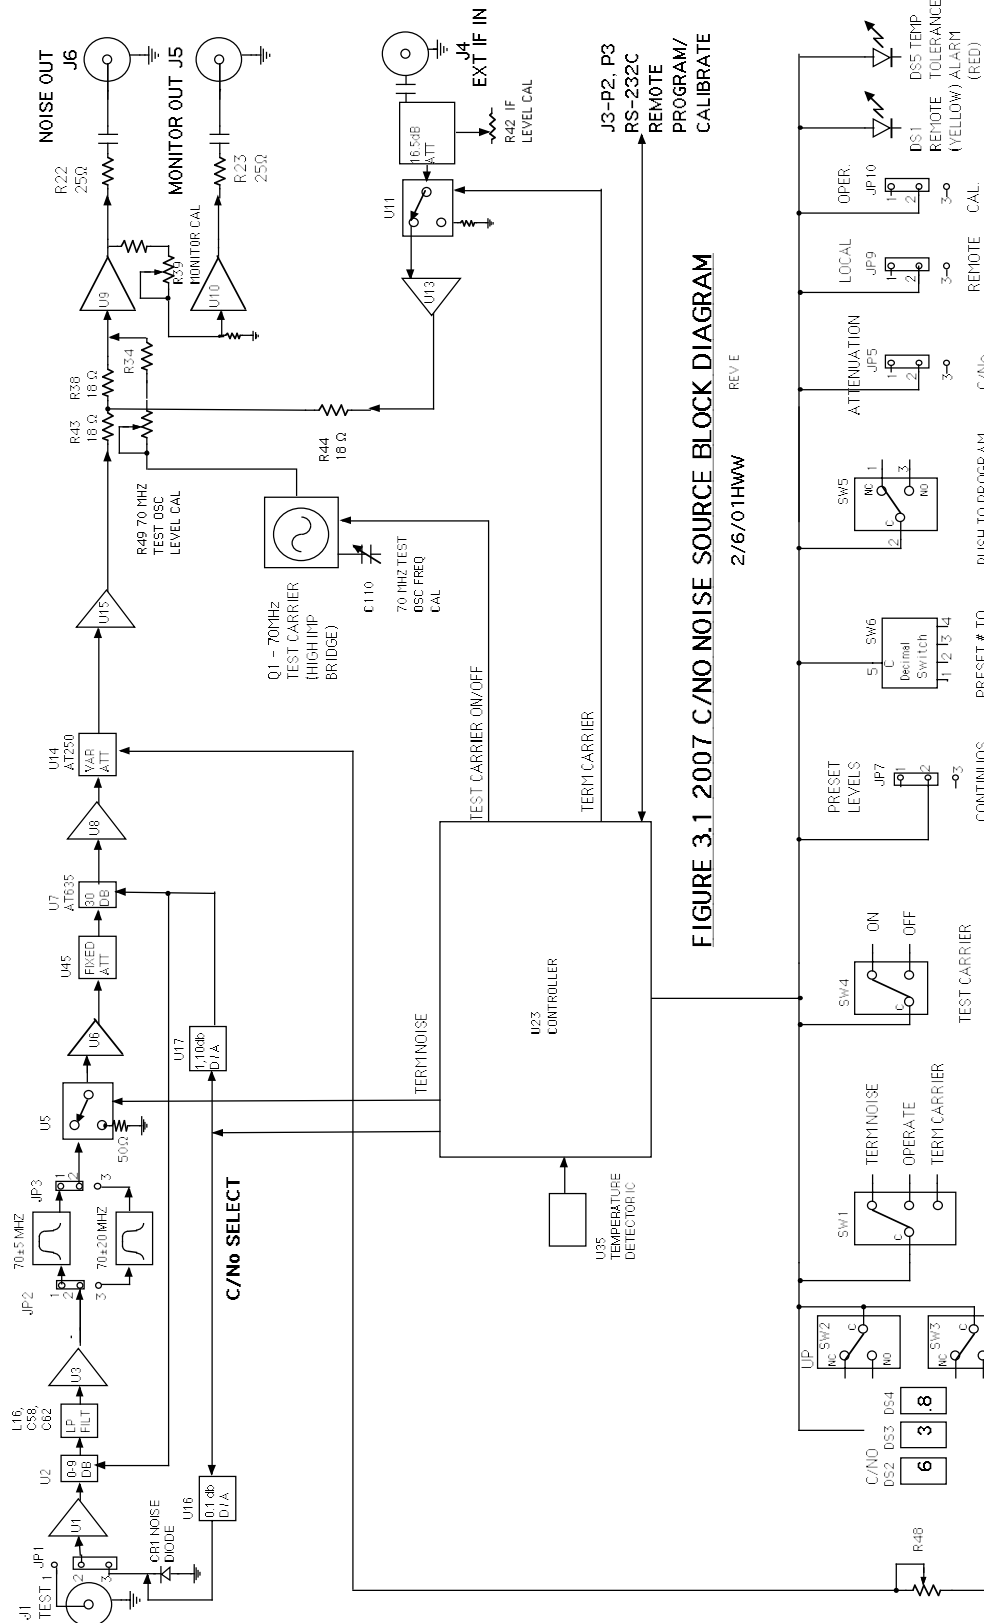

FIGURE 3.1 2007 C/NO NOISE SOURCE BLOCK DIAGRAM
3.1 Block Diagram Description - 2007 (Figure 3.1) - Broadband noise is generated by noise diode CR1 followed by various amplifiers (U1, U3, U6, U8 with 21 dB gain; U15 with 13 dB Gain), a 200 MHz lowpass filter (L16, C58, C62), 70 MHz bandpass filters (10 MHz consists of L3 - L6 and associated parts; 40 MHz consists of L18 - L 21 and associated parts), voltage controlled attenuators (U3, U7, U14), and a noise termination switch (U5) before being summed with the external signal by a resistive summing network (R43, R44, R38). The input signal goes through a variable attenuator (R42) for precise unity gain to the output, signal termination switch (U11), and buffer amplifier U13 before being summed with the noise by resistive summing network, R43, R44, R38. The combined signal plus noise goes to output amplifier U9 and output monitor amplifier U10. Controller U23 and associated circuitry provide attenuation commands to the attenuator D/A U17 and the noise diode bias D/A U16 which provides 0.1 dB steps and slight temperature compensation as needed to maintain the noise power accuracy over temperature as specified.